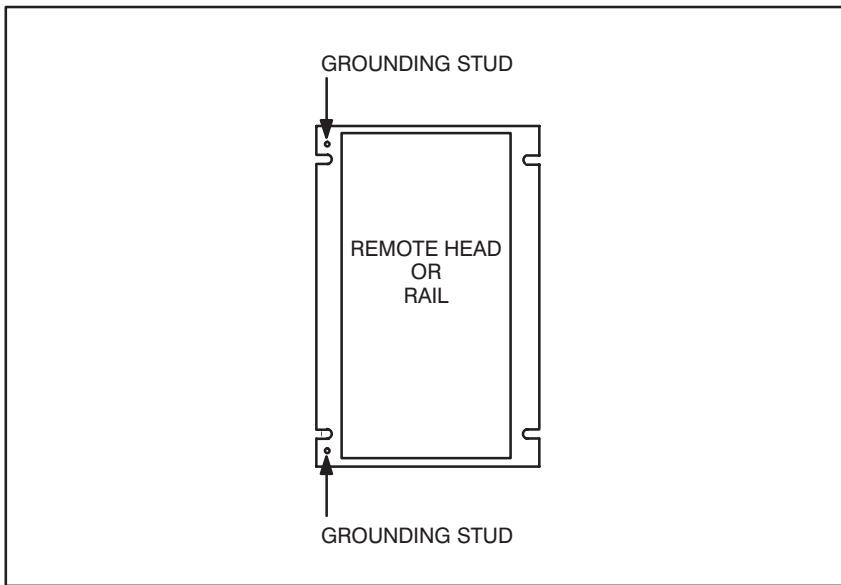

Figure 3.19 - Grounding Stud Location
Step 3. Using figure 3.19, locate the two No. 10 studs provided on the Remote I/O Head for grounding purposes. The Remote I/O Head must be properly grounded to minimize personnel hazard and to ensure proper operation. The ground path, when using a 1KVA transformer, should have less than 10 milliohms resistance. The grounding wire must be a minimum size of 14 AWG. The insulation should be green for U.S.A. applications.
- Step 3. Using figure 3.19, locate the two No. 10 studs provided on the Remote Drive Interface Head for grounding purposes. The Remote Drive Interface Head must be properly grounded to minimize personnel hazard and to ensure proper operation. The ground path, when using a 1KVA transformer, should have less than 10 milliohms resistance. The grounding wire must be a minimum size of 14 AWG. The insulation should be green for U.S.A. applications.